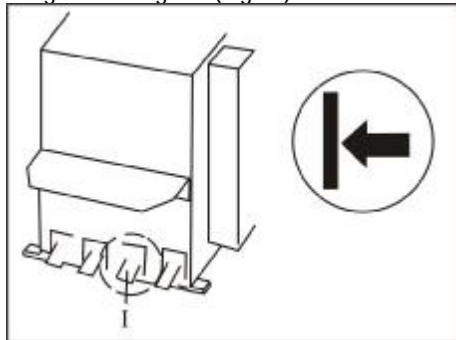

Fig.17
- I The bead breaker is on the right side of the cabinet. As the procedure requires, press down pedal (I) (Fig.17) to start the bead breaker cylinder, the piston rod will pull the bead breaker moving towards the cabinet, with magnitude around 14075N. Release pedal (I), the bead breaker will retract.